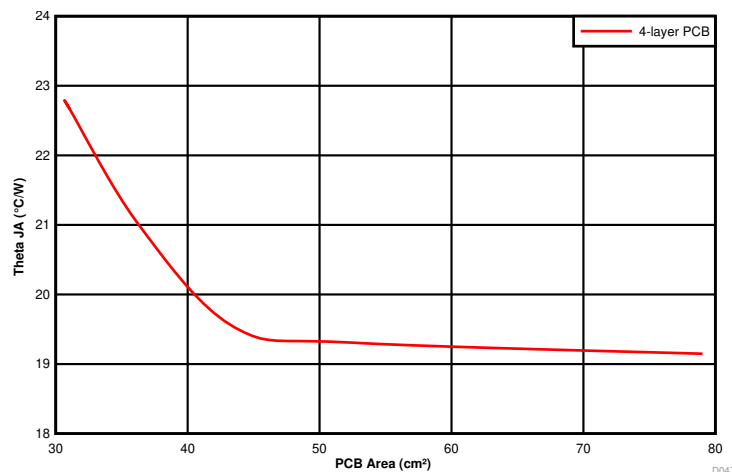

Figure 45. $R_{\theta JA}$ versus PCB Area (per layer)
The amount of PCB copper affects the thermal performance of the device. Figure 45 shows the effects of copper area on the junction-to-ambient thermal resistance ($R_{\theta JA}$) of the TPSM53602. The junction-to-ambient thermal resistance is plotted for a 4-layer PCB with PCB area from 30 cm² to 80 cm².
3. Reference Figure 45 to determine the minimum required PCB area for the application conditions.